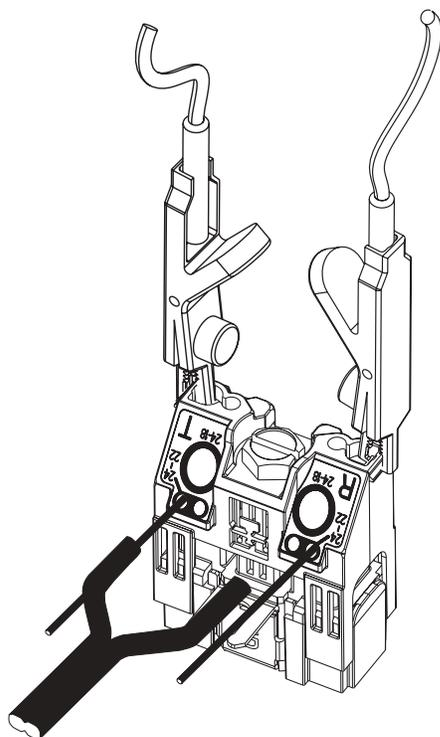

Figure 5 — Test Subscriber Wires Separately
- Step 2** To test subscriber wires separately, unscrew cap two turns until telco wires can be withdrawn and connect the standard test clips to the test points (Figure 5).